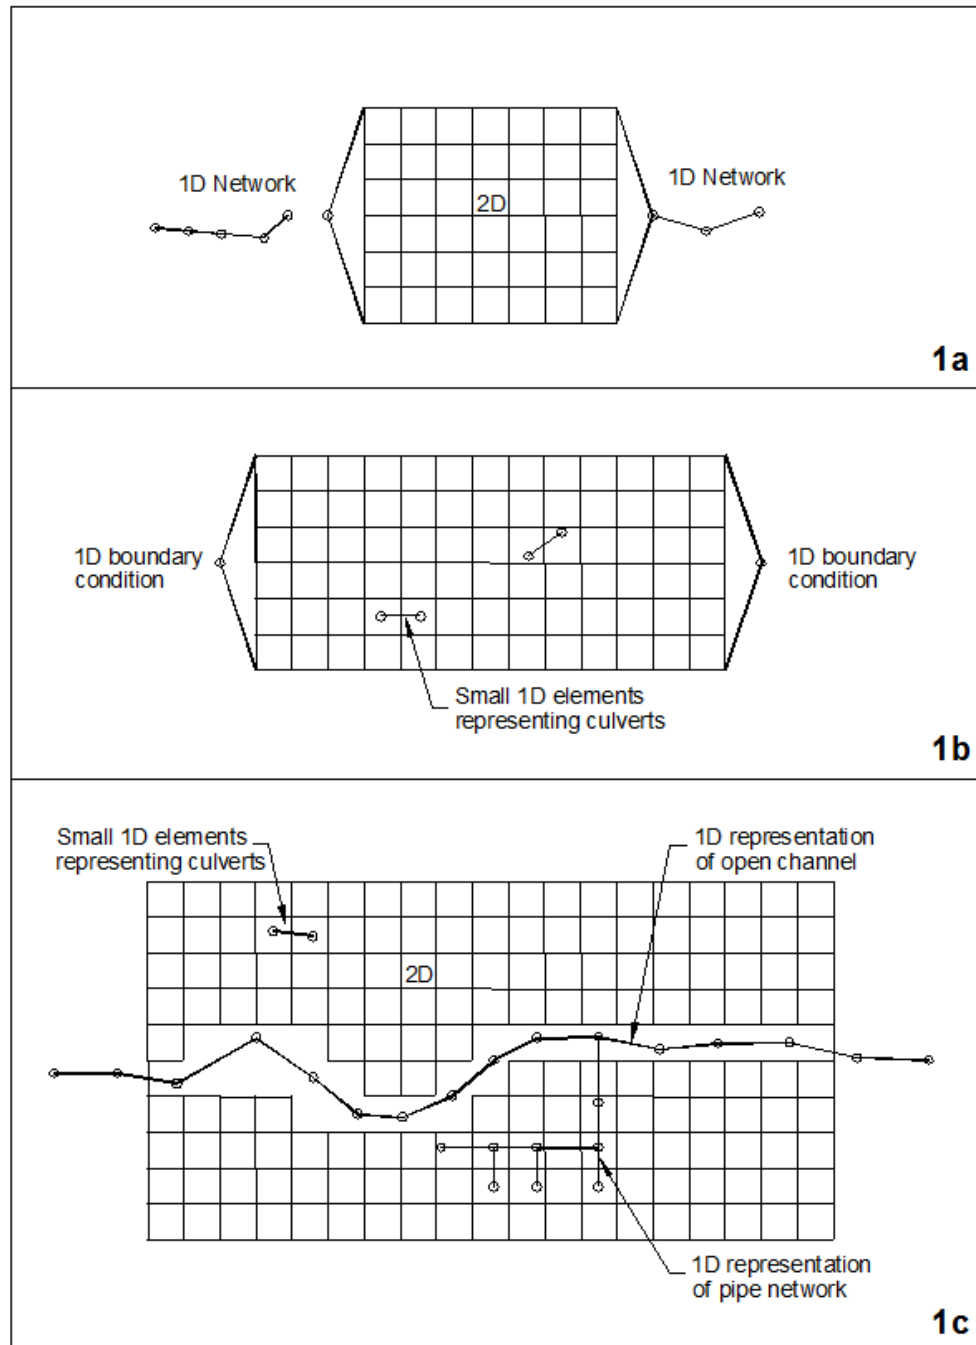
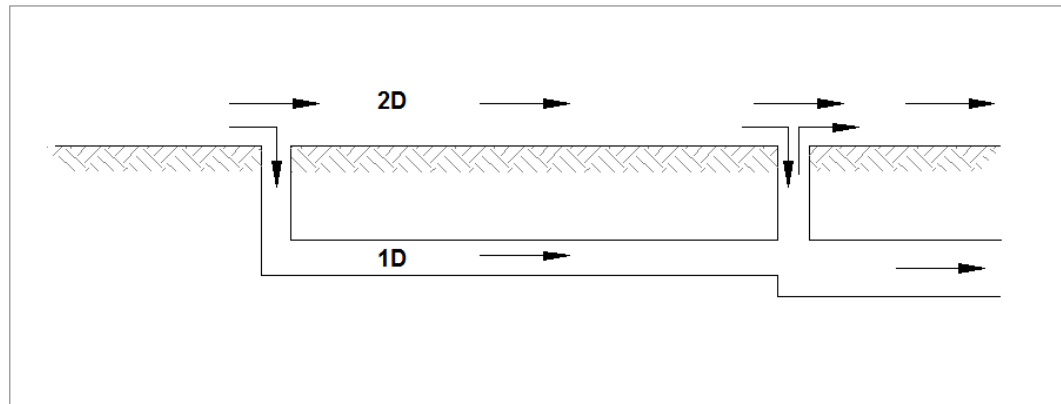
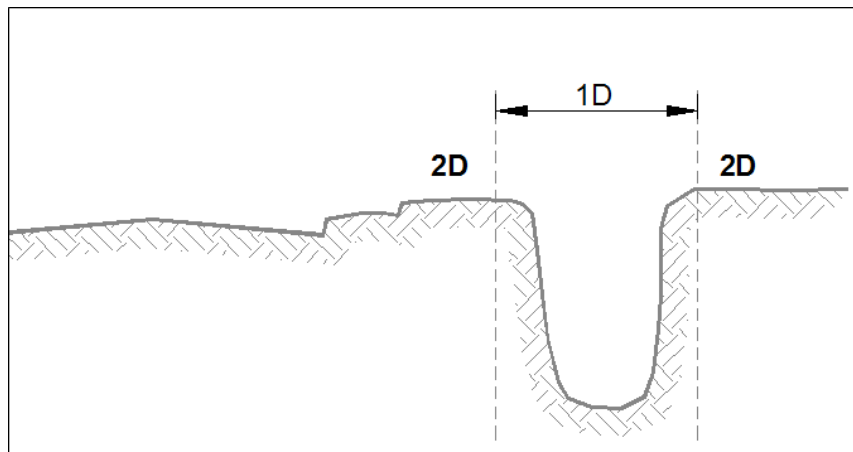

Figure 2 1D/2D linking mechanisms (from TUFLOW Users Manual, 2010 (Build 2010-10-AB), p.3-4 "The Modelling Process", www.tuflow.com)
Figure 3 Modelling a pipe system in 1D underneath a 2D domain (from TUFLOW Users Manual, 2010 (Build 2010-10-AB), p.3-5 “The Modelling Process”, www.tuflow.com)
Figure 4 Modelling a channel in 1D and the floodplain in 2D (from TUFLOW Users Manual, 2010 (Build 2010-10-AB), p.3-5 “The Modelling Process”, www.tuflow.com)
- Embedding a 2D domain inside a large 1D domain (see Figure 2 sketch 1a).
- Insert 1D networks “underneath” a 2D domain (see Figure 2 sketch 1b, and Figure 3).
- Replace, or “carve” a 1D channel through a 2D domain (see Figure 2 sketch 1c, and Figure 4).